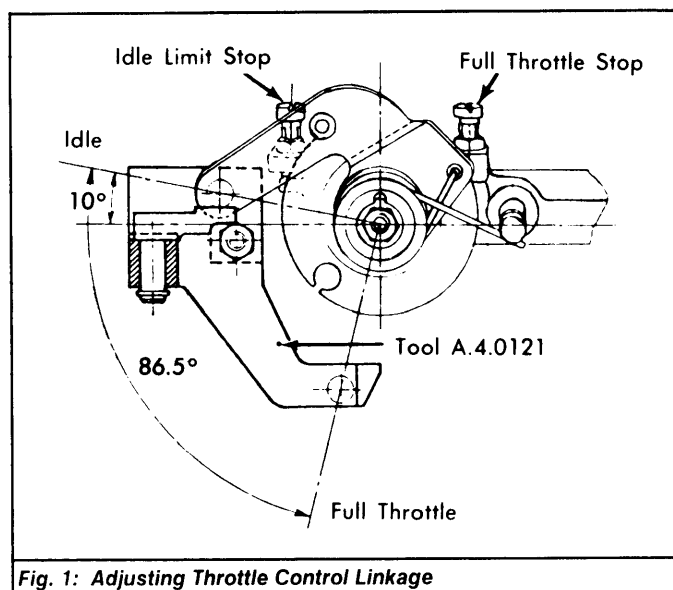

Fig. 1: Adjusting Throttle Control Linkage
1) Disconnect both throttle rods, accelerator cable, and negative battery cable. With Adjustment Gauge (A.4.0121) attached to clamp studs, adjust idle stop screw until ball joint just touches reference plane of gauge and set lock nut. See Fig. 1.